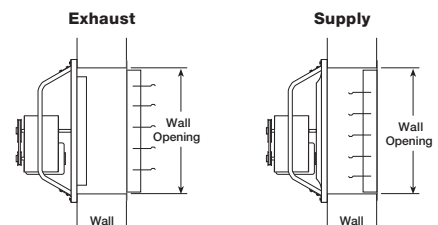
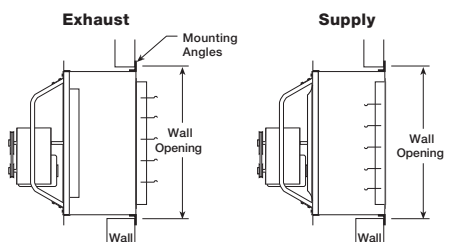
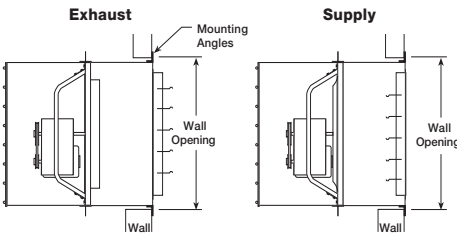
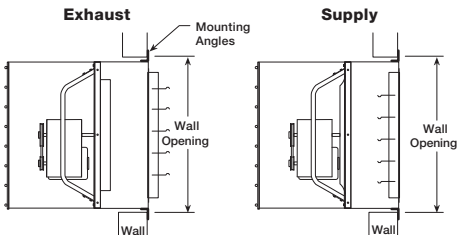

Figure 3 — Direct to Wall Installation
Figure 4 — Wall Collar Installation
Figure 5 — Wall Collar & Guard Installation
Figure 6 — Wall Housing Installation
the fan is to be mounted as shown in Figures 3, 4, 5 and 6 on pages 4-5. Optional wall collar (Figure 4), wall collar and guard (Figure 5) or wall housing (Figure 6) provide a convenient means of mounting sidewall fans.
3. Figure 3 shows the recommended wall opening for direct to wall installations.
4. Figure 4 shows the wall opening required for installations using a wall collar.
5. Figure 5 shows the wall opening (W.O.) required for installation with a wall collar and a guard.
6. Figure 6 shows the wall opening required for installation with a wall housing.